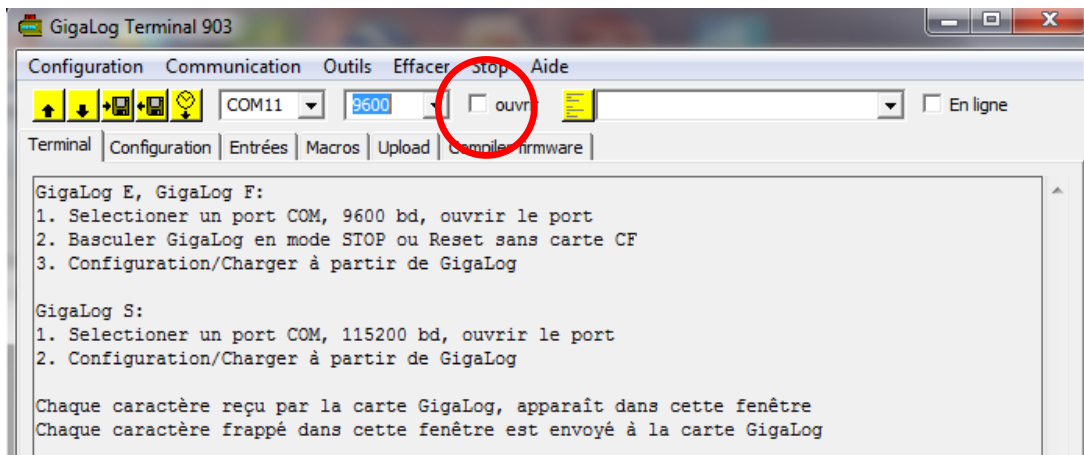

Figure 7: COM Port Settings in the Giga Term Program
- S3 Start the "Giga Term" program (you may need to run it as administrator for windows 7), click on "tcp\ip" drop-down menu and choose the correct COM port (see device manager). Be sure that the baud rate in the next drop-down menu is set to "9600", then check "ouvrir" (Figure 7).